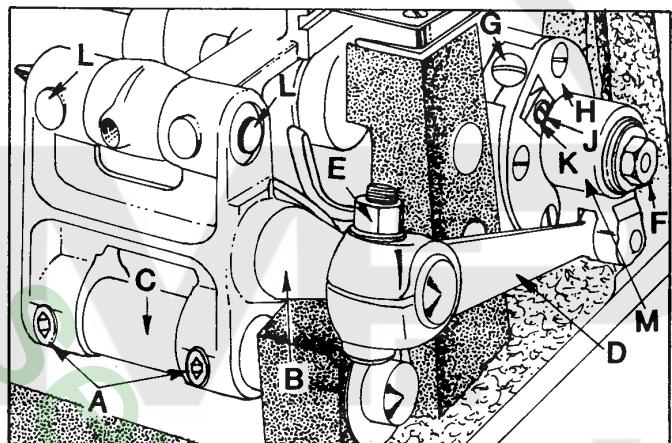

Fig. 11
Right to left adjustment can be made by loosening screw (A, Fig. 11) and slightly move feed rocker (B) on feed rocker shaft (C) as required, then retighten screws. Check to ensure that feed rocker arm (D) does not bind after adjustment.
Forward or rearward centering of the feed dog can be accomplished by loosening nut (E, Fig. 11). Move feed rocker (B) as required and retighten nut.
CAUTION: Feed crank link sub-assembly (M, Fig. 11) **MUST** have shake with **NO** binds at a 360° rotation of the handwheel. Nut (F) should be torqued at 55 in. lbs. (63 cm/kg).
Set the stitch to required length. This is accomplished by loosening locknut (F, Fig. 11) on the end of the stitch regulating stud 1/2 turn (it has a left hand thread). Turn stitch adjusting screw (G) located under the left end of the cloth plate, in the end of main shaft (H), which is marked with "L" and "S". Turning the screw clockwise shortens the stitch (moves stitch regulating stud toward the "S") and turning it in a counterclockwise direction lengthens the stitch (moves stitch regulating stud toward the "L"). Retighten locknut securely. To prevent destructive damage to the feed drive bearing, key screw (J) must engage the "U" shaped key slot in ferrule (K).
Needle bearings in the feed rocker at locations (L, Fig. 11) may require repacking after years of service. Bearings should be thoroughly cleaned and repacked with Union Special Corporation grease No. 28604P.